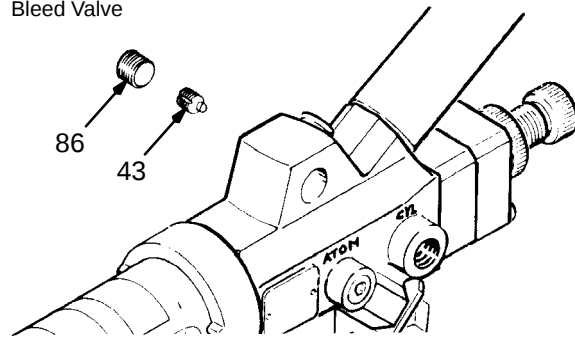

Fig 3
2. Remove the plug (86). See Fig 3 .
3. Turn the air bleed valve (43) about 1/8 of a turn *counterclockwise*.
4. Install the plug (86).